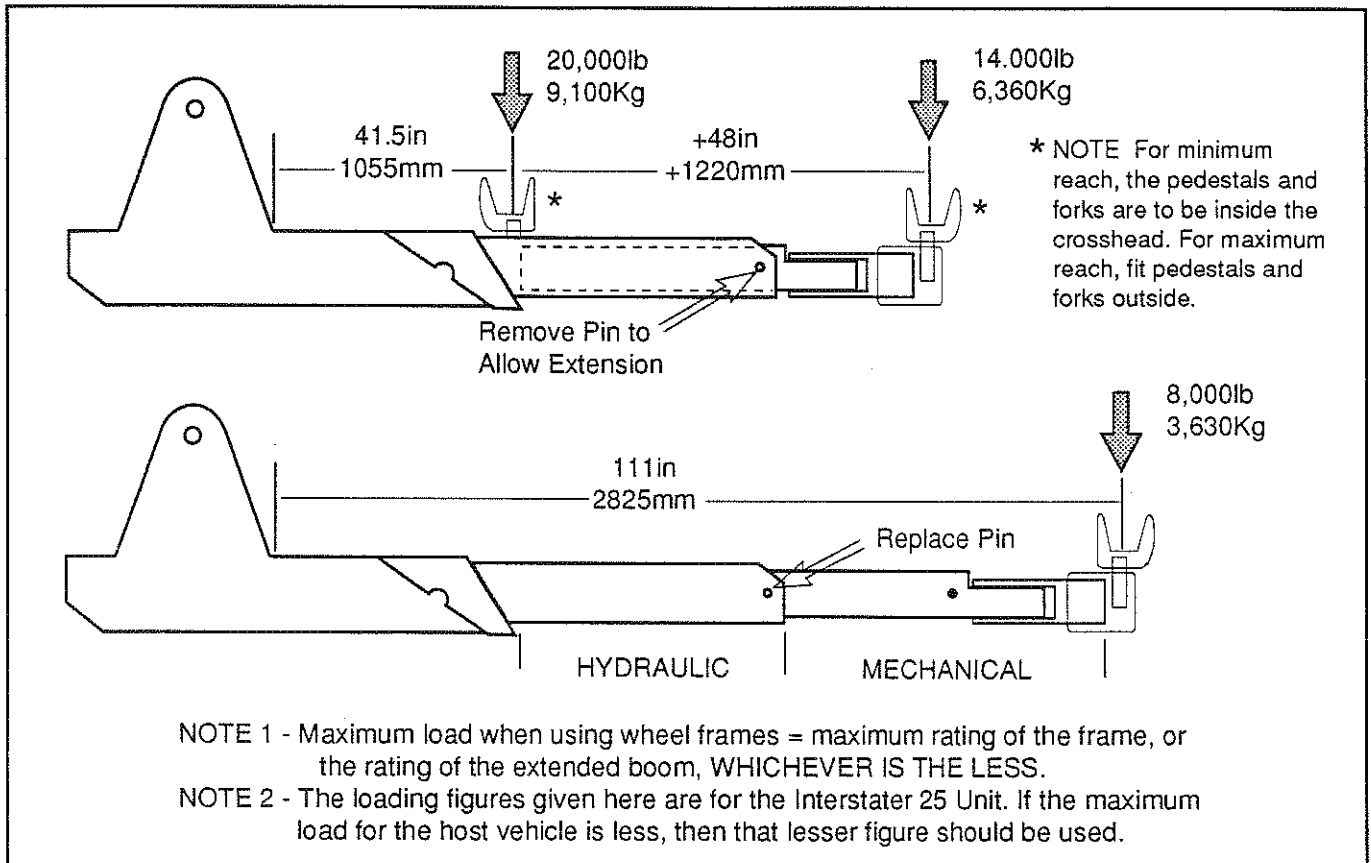
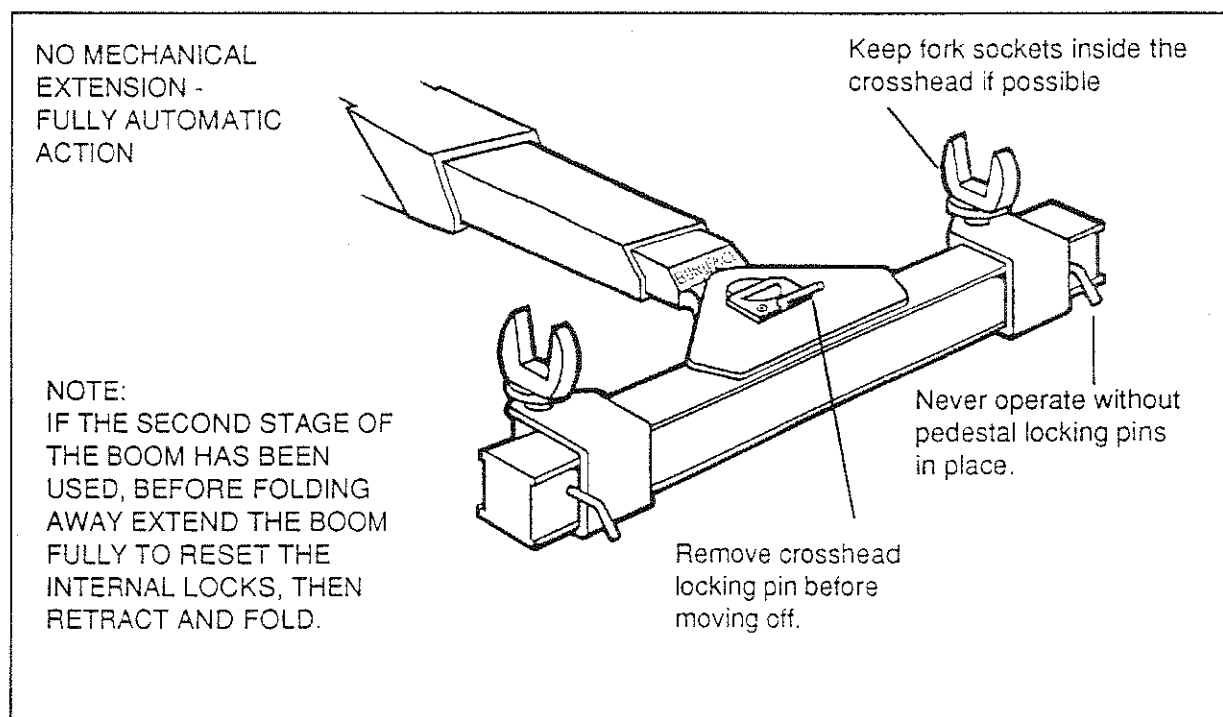

Figure 6- Performance Figures for the Type C Extending Boom
Figure 9- The Type E Extendible Boom
3. This recovery unit has been designed for use in all normal vehicle recovery situations, i.e. winch hauling, lifting, suspend towing and flat towing. The load limits on these aspects are given on Pages 8 (Figures 6 & 7). However the chassis size, weight and boom rating may limit the actual loads which can be lifted or towed. The installation of extra leaf springs is recommended, and if a choice is available, a higher rated chassis should be used in order to allow an increased payload.
- 2.1.12 All Models. Using the hydraulic control lever, operate the extendible boom and check for leaks. Ensure that the extension is that specified in Figure 6 or 7 of this book. (Type E boom, see Note in Figure 9)
- 2.2.2 Without aiming to overload the Interstater or the vehicle it is fitted to, (See Figure 6 or 7 for loadings at full hydraulic extension), chose another vehicle which can be lifted by the unit, and prepare to lift as described in Part 3 of this book.